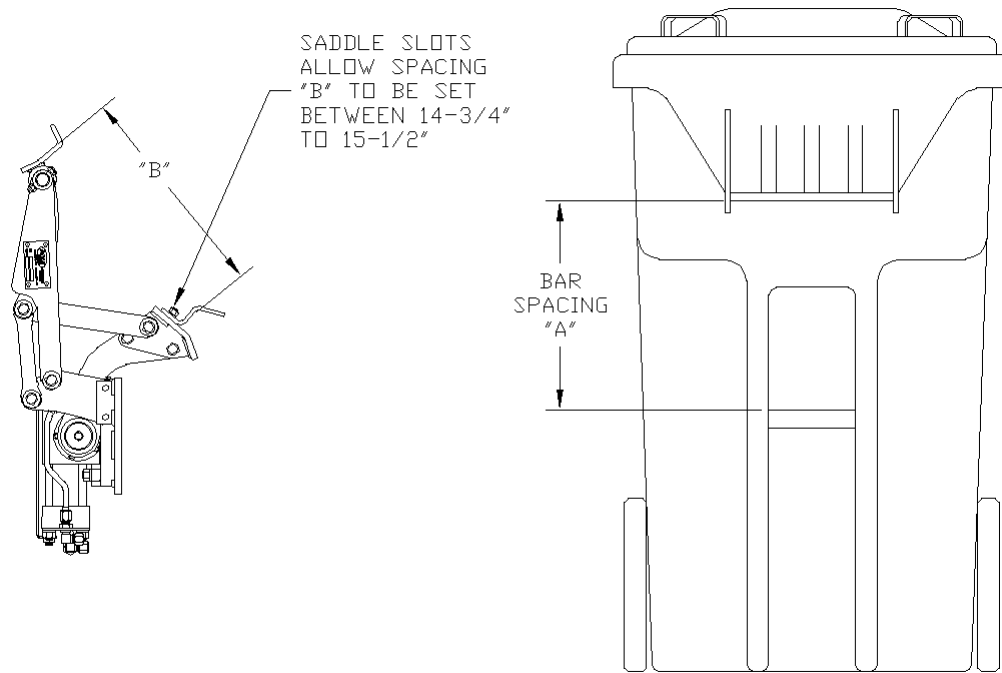

Figure 8.
The lift saddle is equipped with slots and must be properly adjusted to accommodate the carts being lifted. Check the distance (A) (Figure 8) between the upper bar and the lower bar on the cart. If this dimension is between 14-3/4" to 15-1/2", adjust the lift saddle spacing (B) as required to match the cart.